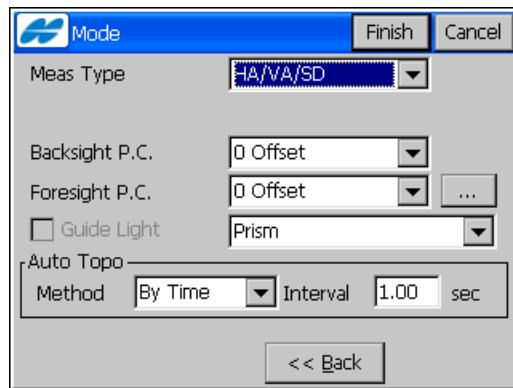

Figure 8-10. Mode - Type of Measurements
- **Next** – opens the next **Mode** screen to set the order and the type of the measurements in one set (Figure 8-10).